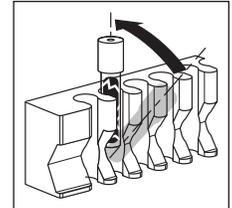

Figure 2
- b. Push the indicator straight back (see Figure 2). This crushes the media ampule and activates the indicator. Be sure that the cap will remain above the metal block when the indicator is pushed back.